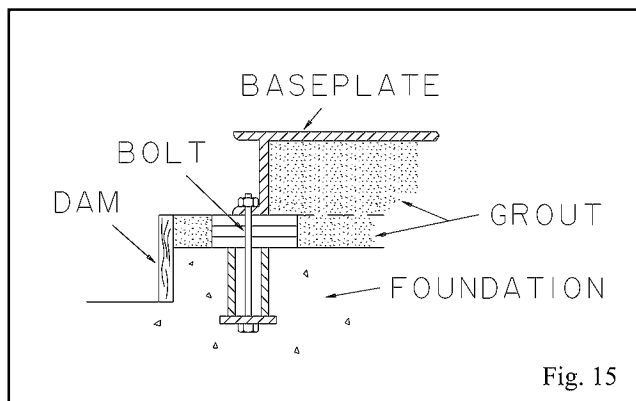

Fig. 15
5. Fill remainder of baseplate with grout. Remove air as before (Fig. 15).